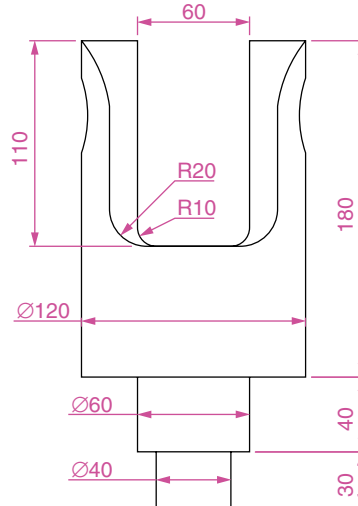

Fig. 7.2 The **front view** of the solid
1. Draw what is seen when the solid is viewed from its left-hand side and regard this as the **front** of the solid. What is drawn will be a **front view** (Fig. 7.2).